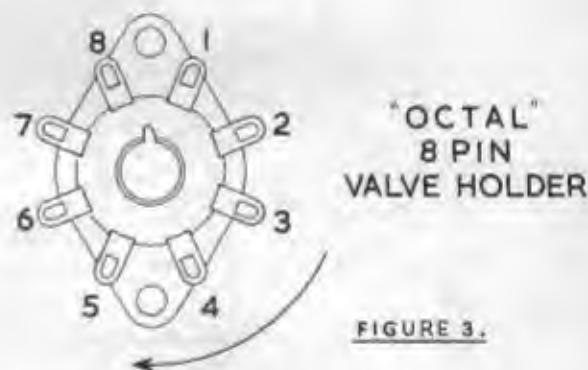

FIGURE 3.
- ( ) Mount the 8-pin valveholder V8, using 2 - 4BA x 3/8" screws, lockwashers and nuts orienting it as shown. (Figure 3 shows in detail how valve pins are numbered.)